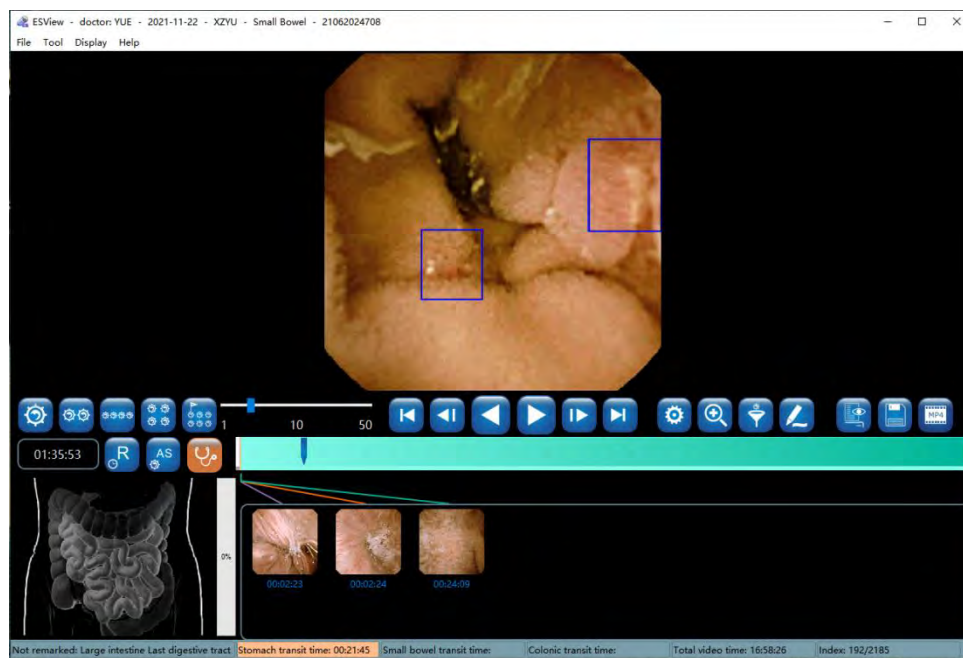

Figure 4-47: NaviCam ProScan Mode
3. When the NaviCam ProScan icon is blue, the default is Total Images Mode, click  to switch to NaviCam ProScan Mode, the button color changes to orange, click  to switch to Normal Images Mode, the color changes to green, as shown in Figure 4-47 and Figure 4 -48, click  to switch back to Total Images Mode.